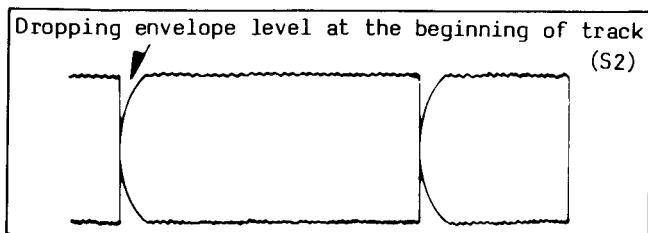
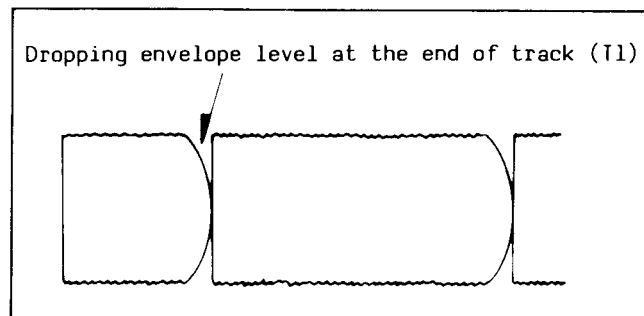
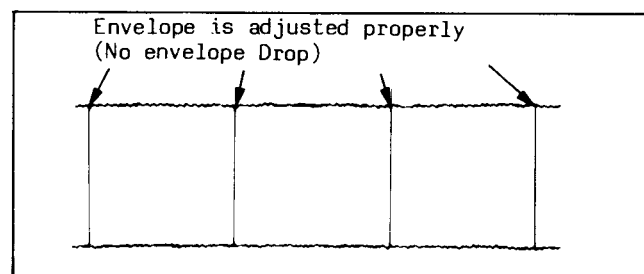

Fig. M23
Fig. M24
Fig. M25
- (3) When the scope display is as shown in Fig. M23, adjust the height of S2 so that the waveform looks like Fig. M25.
- (4) When the scope display is as shown in Fig. M24, adjust the height of T1 so that the waveform looks like Fig. M25.
- (5) The scope display should appear as shown in Fig. M25 when S2 and T1 Posts are adjusted properly.